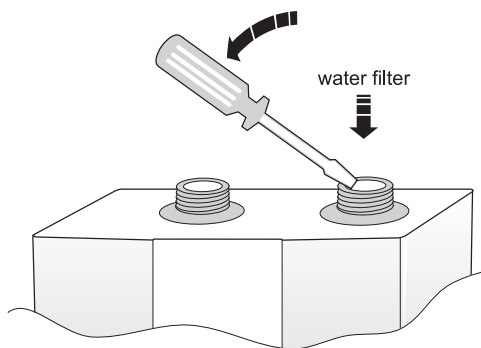

Fig. 8
3. Take out filter (using small screw driver) – see fig. 8.